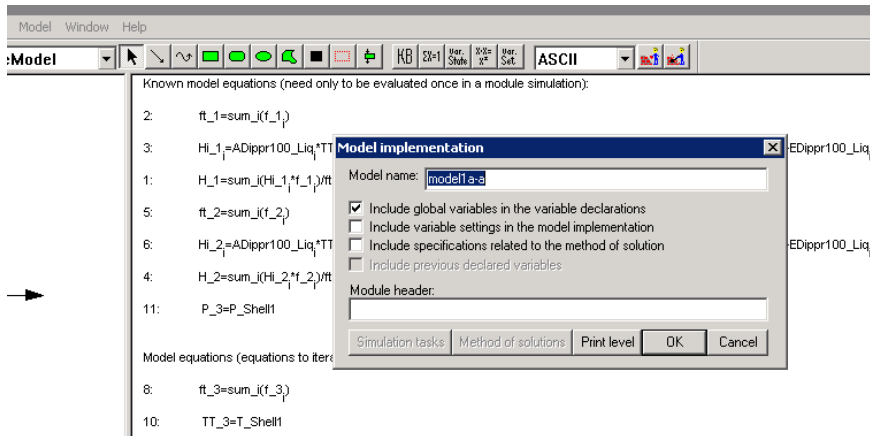

Figure 11: Model implementation tool.
Step 2: Note that before the model will be generated, it is necessary to save the current model. Save model1a.mdl as model1a-a.mdl (after model analysis). Press the button “implement the model equations” on the tool-bar (fig. 11).